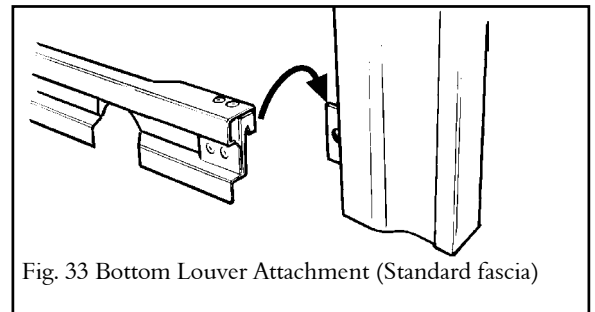

Fig. 33 Bottom Louver Attachment (Standard fascia)
7.10.1.1 Hook the bottom louver unit on to the brackets near the bottom of the frame sides (see fig. 33).